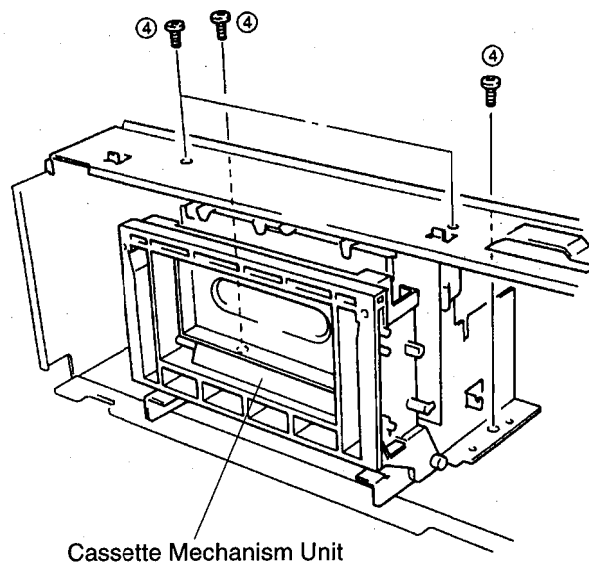

Fig. 3
a. Remove 4 screws (④) in Fig. 3